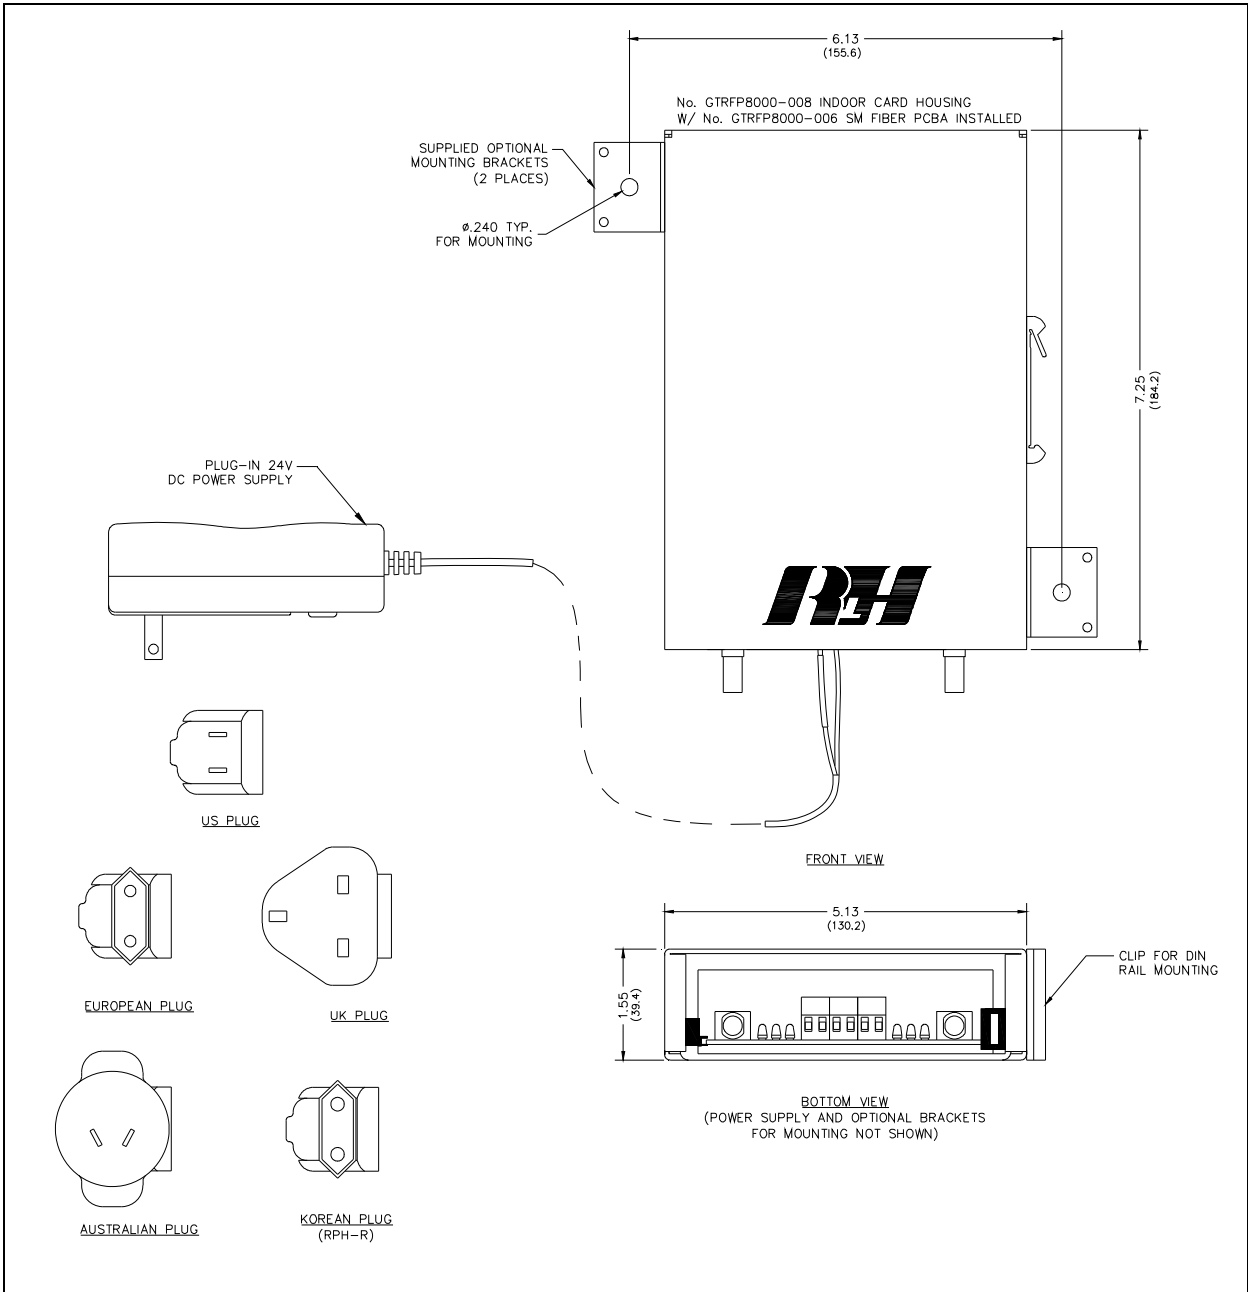

Figure 2. Indoor Housing w/ Power Supply
1. Mount the indoor single-card housing to a DIN rail or wall using the included brackets. For wall mounting, attach the included brackets to the housing using the included screws and then mount the housing to the wall using customer supplied hardware (see Figure 2).